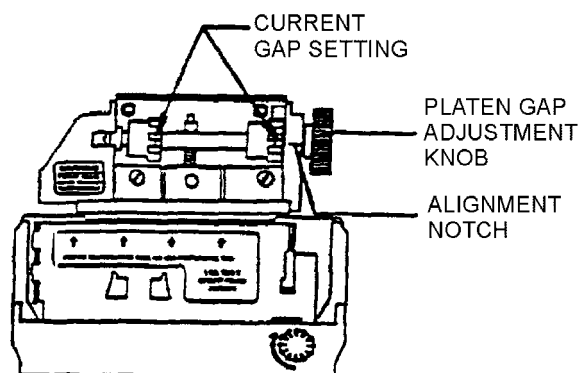

Figure 17. Platen Gap
f. Locate platen gap adjustment (Figure 17).